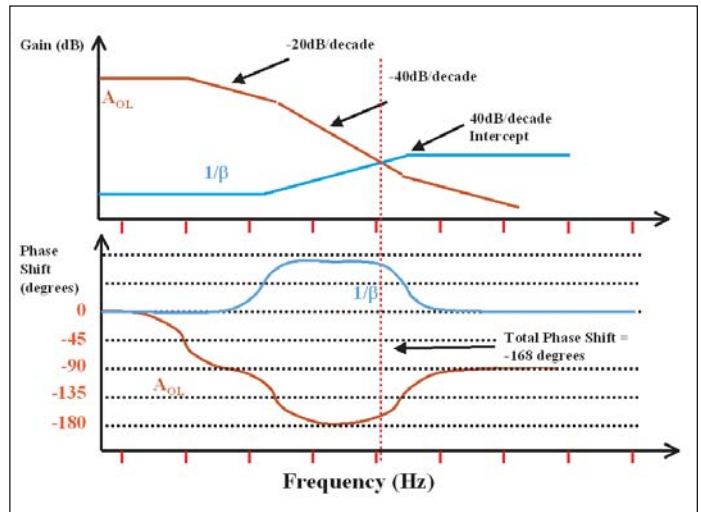

Figure 9: In a practical circuit implementation, given layout parasitics, this system is also unstable.
**Figure 9:** The three-amp instrumentation amplifier has two fundamental stages. The first stage (gain stage gains the input signals and present the results to the second stage (difference amplifier).
In Figure 9,  $A_{OL}(j\omega)$  is changing at a rate of -40 dB/decade. The  $1/\beta(j\omega)$  is changing at a rate of 0 dB/decade. The rate of closure in these two curves is 40 dB/decade, indicating a phase shift of -170 degrees. The stability of this system is also questionable.